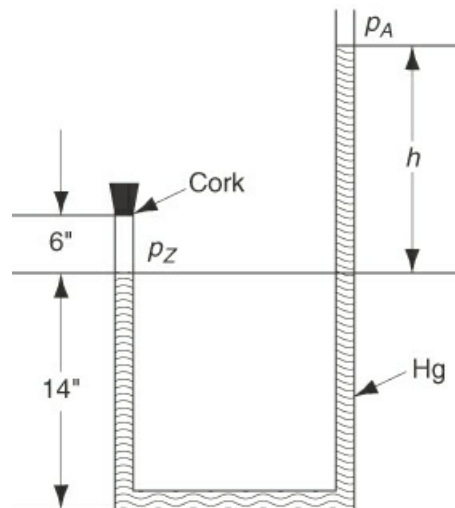

Figure P6.1.23
****6.1.23** The U-tube manometer depicted in Figure P6.1.23 has a left leg 20 in. high and a right leg 40 in. high. The manometer initially contains mercury to a depth of 12 in. in each leg. Then the left leg is closed with a cork, and mercury is poured in the right leg until the mercury in the left (closed) leg reaches a height of 14 in. How deep is the mercury in the right leg from the bottom of the manometer?